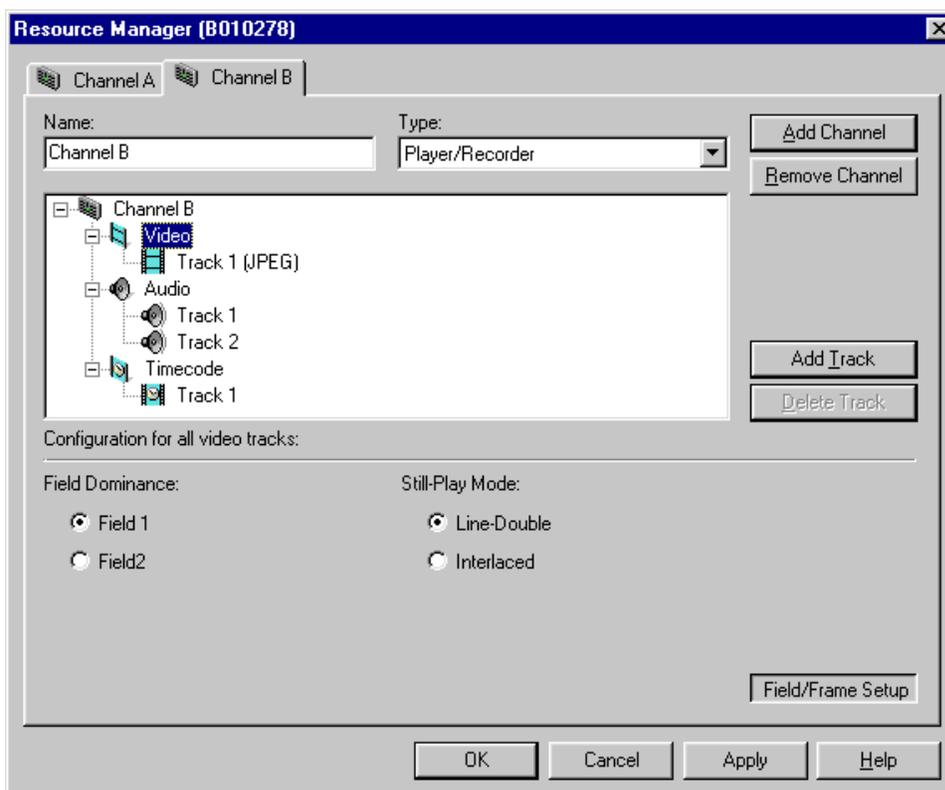

Figure 154. Field/Frame Setup controls
1. Select the Video icon in the configuration tree; the field dominance and still-play mode controls appear at the bottom of the Resource Manager dialog box (see Figure 154).